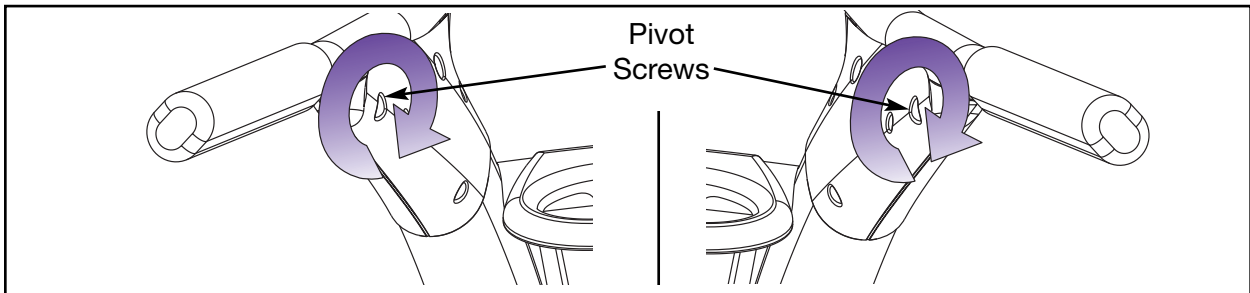

Figure 9
- B.** Using the hex key provided, tighten the two pivot screws on the handrail. See Figure 9.